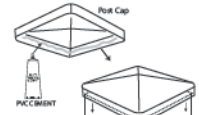

Figure 13
1. Install post cap on post by applying PVC glue on the inside of the cap. (Figure 13)